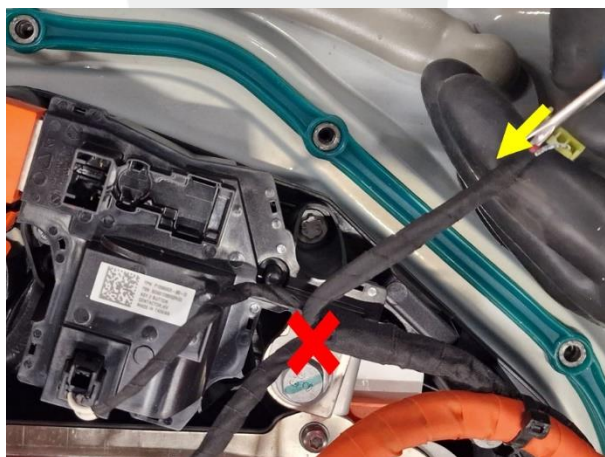

Figure 6
9. Remove the tape from the HV+ sense harness branch. (Figure 6).